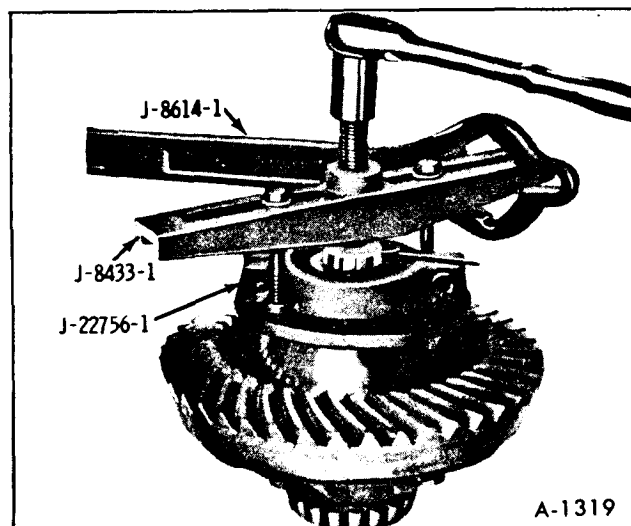

Figure 31—Removing Left Side Bearing
1. If the side bearings are to be removed, they can be removed as shown in Figures 31 and 32.